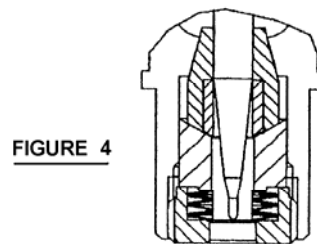

FIGURE 4
- 4.6. Draw needle (16) back until the hexagon key fits into the retaining screw without touching the end of the needle (See Figure 4).